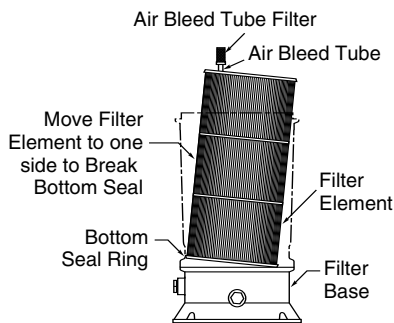

FIGURE 8
10. Rock filter element to one side (see Figure 8) to free seal.